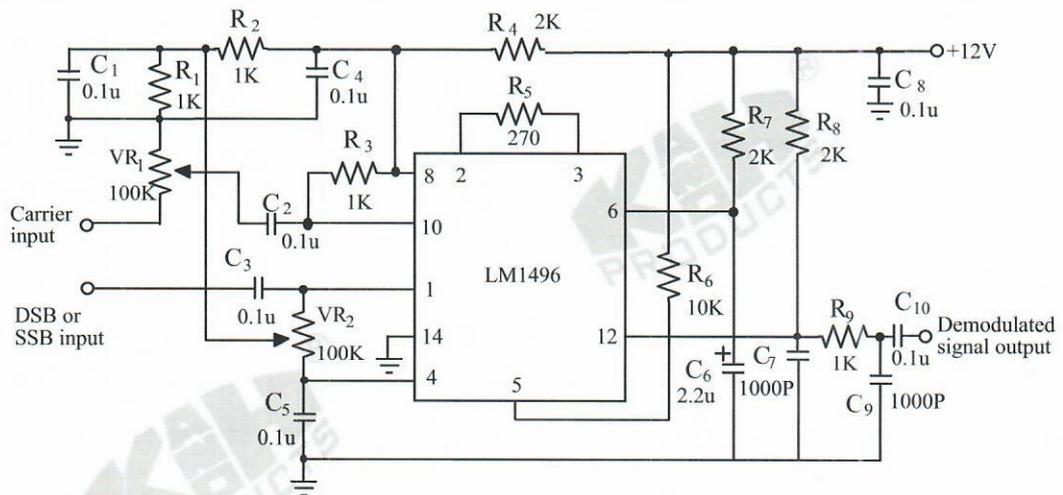

Fig.6-2 Product detector for DSB-SC and SSB signals.
Fig. 6-2 shows the product detector circuit with the MC1496 for DSB-SC or SSB demodulation. With some proper modifications, this circuit can also be used as an AM, FM, or PWM demodulator. The local carrier is applied to the inputs (pins 10 and 8) and its frequency should be exactly equal to the frequency of DSB-SC or SSB carrier. Since the amplitude of the modulated signal is typically within the range of 500 mV_{pp} to 800 mV_{pp} , it is enough to ensure that the detector operates in linear region. The resistor R_5 connected between pins 2 and 3 determines the voltage gain of MC1496.
1. How does the value of R_5 in Fig. 6-2 affect the output amplitude?
2. How does the value of R_6 in Fig. 6-2 affect the output amplitude?